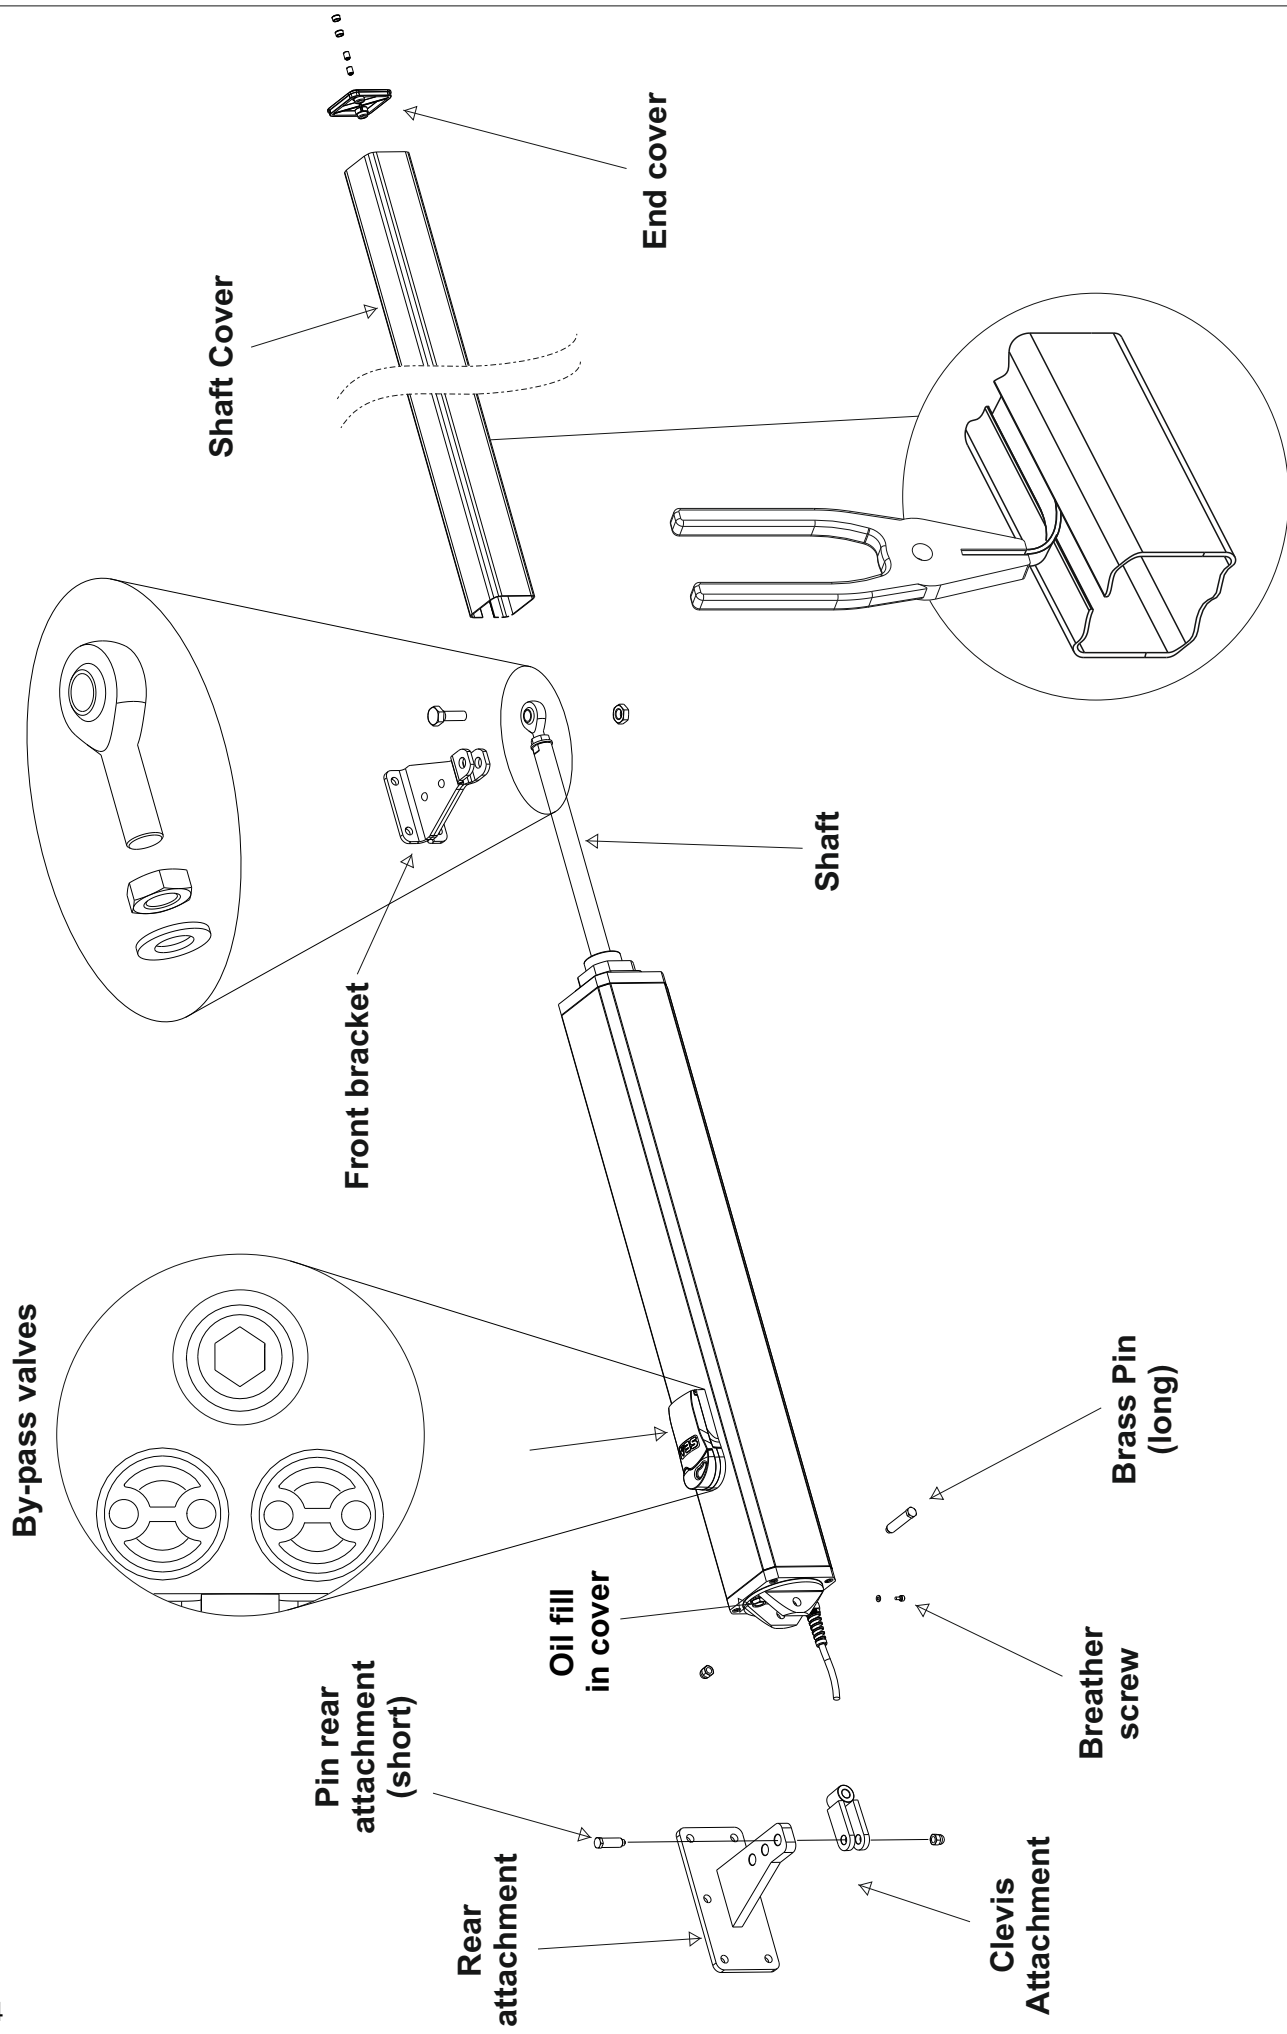

Fig. 4
- Open carefully the package, making sure not to loose parts which are listed in Fig. 4